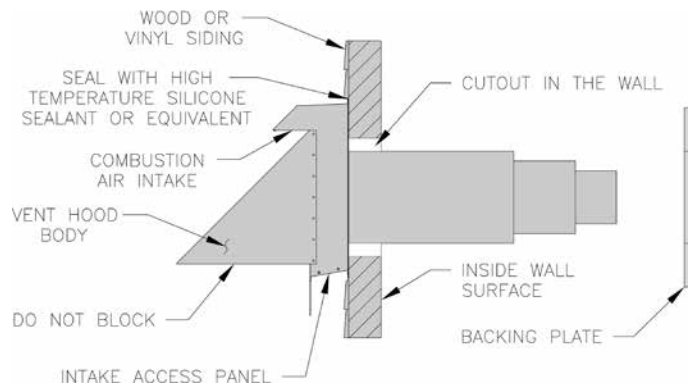

Figure 18: Vent Hood Body Installation
2. Direct Vent Conversion Kit Carton includes (see Figures 18, 19 and 20):
6. Wood or vinyl siding should be cut, so that vent hood base plate mounts directly on the wallboard to provide stable support. If siding thickness exceeds ½", use a spacer bar or board behind the vent hood mounting (base) plate. See Figure 18.